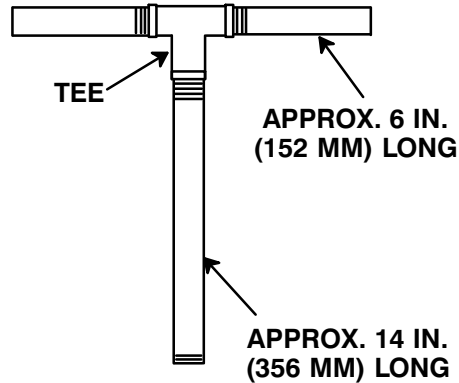

Figure 5. Rotating Assembly Tool
*An optional disassembly tool is available from the factory. If the tool is used, follow the instructions packed with it. A similar tool may be assembled using 1/2-inch pipe (schedule 80 steel or malleable iron) and a standard tee (see Figure 5). All threads are 1/2-inch NPT. **Do not pre-assemble the tool.***